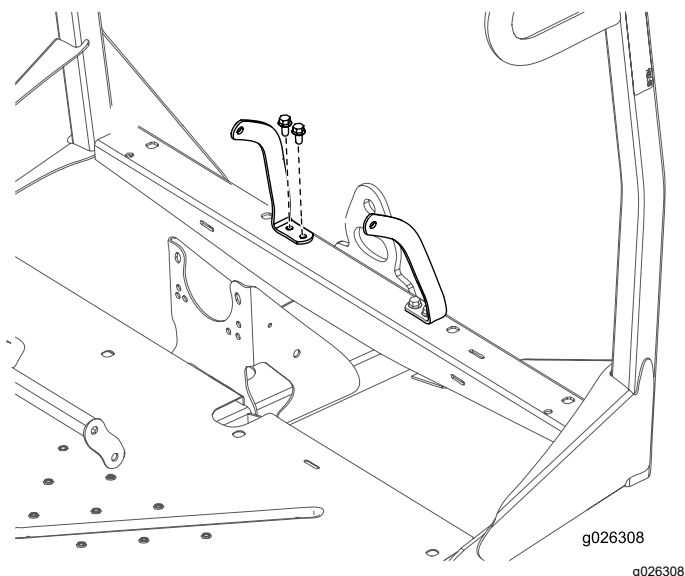

Figure 9
5. Secure the left and right seat-belt anchor to the front frame with 4 bolts (3/8 x 3/4 inch) and 4 nuts (3/8 inch) as shown in Figure 9.